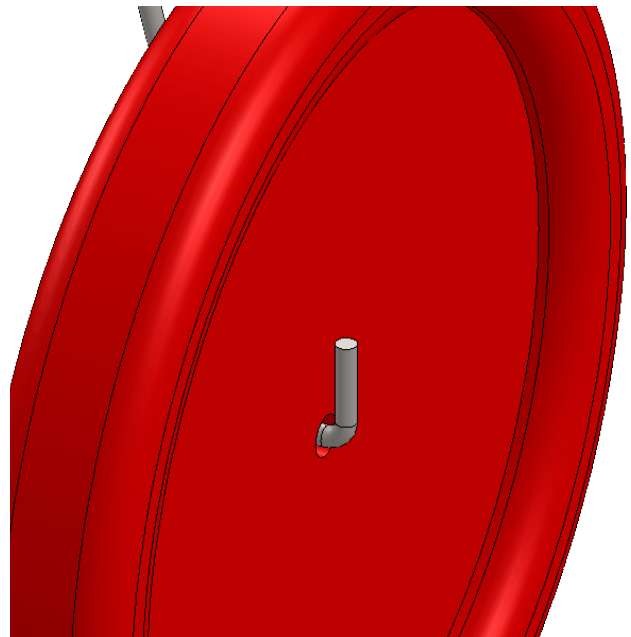
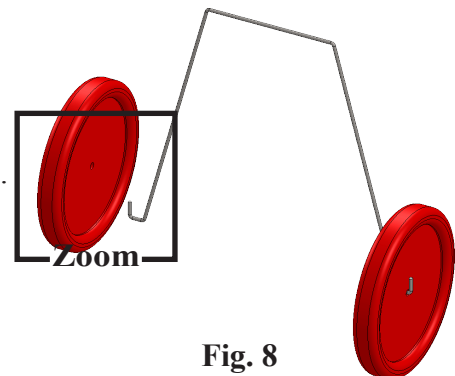

Fig. 7
Fig. 8
Step 6. Click Add/Finish Mate  in Mate pop-up toolbar to add a **Coincident** mate, **Fig. 7**.
Step 1. Click Zoom to Fit  (F) on the View toolbar.
Step 2. Zoom in around **left wheel hole** and **end of wire**, **Fig. 8**.